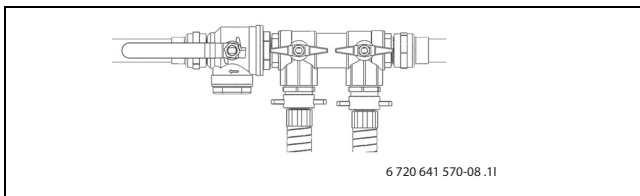

Fig. 31 Filling units in normal position
- ▶ Turn the valves of the filling unit to normal position (→ Figure 31) and turn off the pump on the filling station.